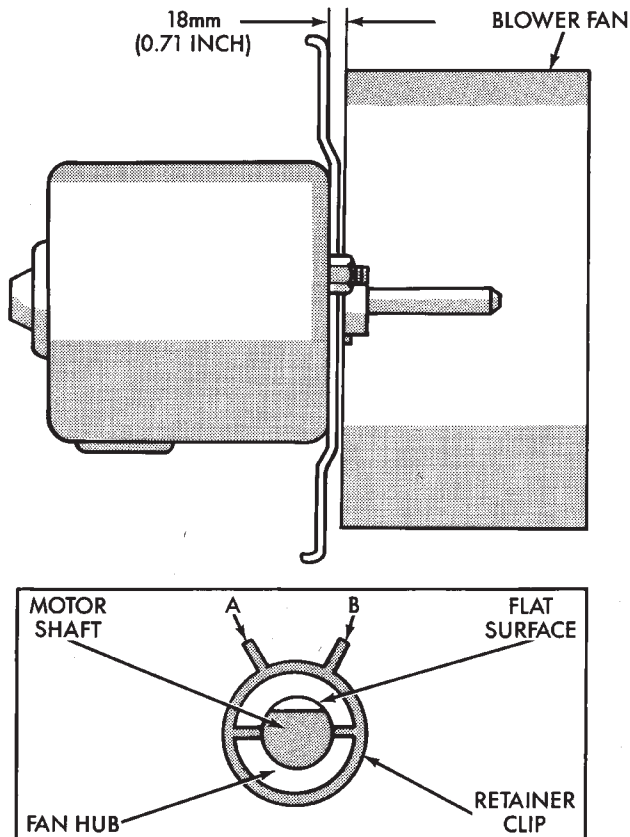

Fig. 11 Blower Fan
- (4) Remove the blower motor fan from the motor shaft for access to the motor attaching nuts (Fig. 11). To install the blower fan and motor, reverse the removal procedures.
- (5) Remove the blower motor fan from the motor shaft for access to the motor attaching nuts (Fig. 11).
To install the blower fan and motor, reverse the removal procedures. **The ears (A) and (B) of the retainer clip must be over the flat surface on the motor shaft (Fig. 11).**